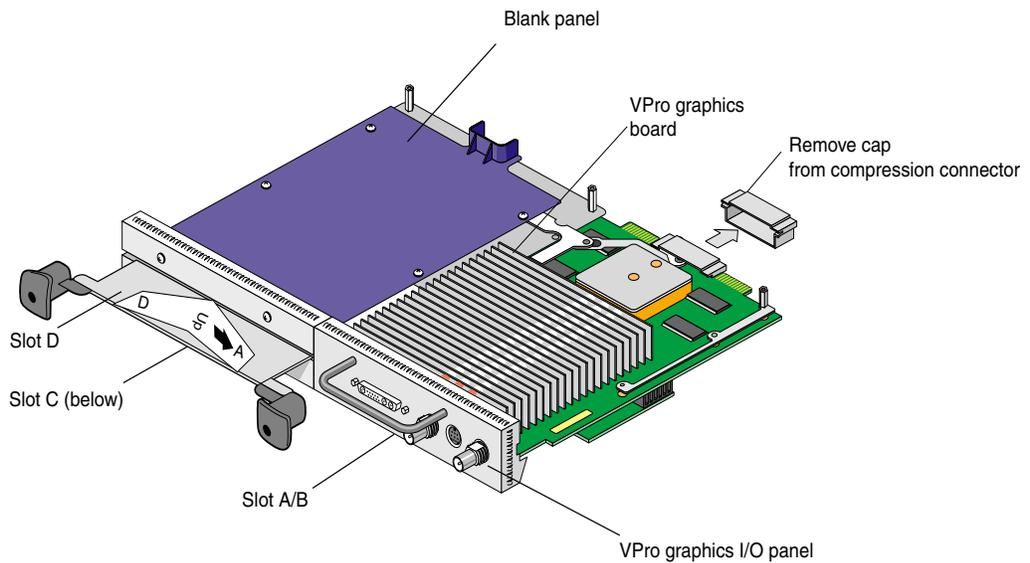

Figure 10 XIO Tri-Module
When the XIO Tri-Module is out of the chassis, the sliding handles must protrude, as shown in Figure 10. If they do not protrude, pull them out about an inch.
4. Remove the cap from the compression connector, as shown in Figure 10.